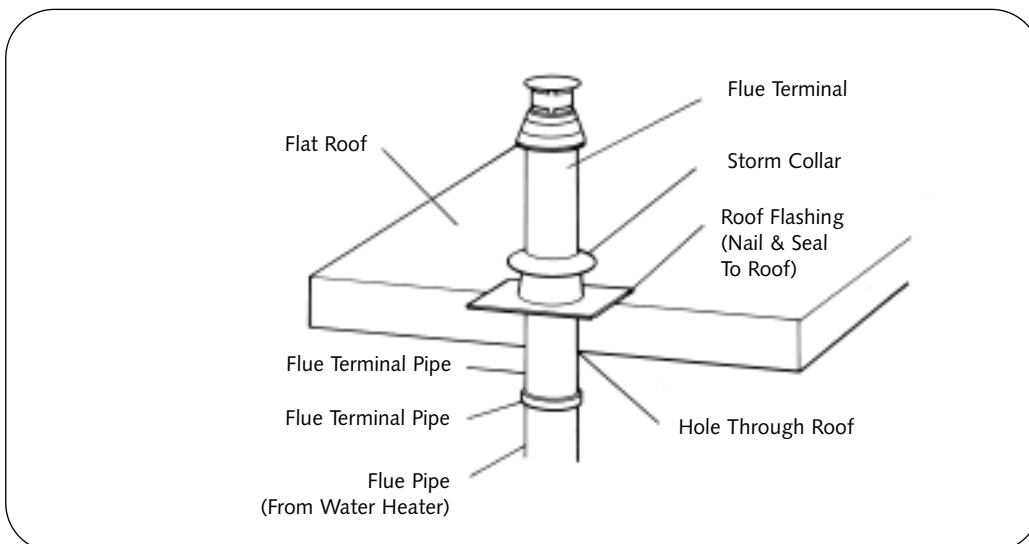

Fig 6.
- c) Cut a minimum 165mm (6.5in) diameter hole for the smaller flue size or a 216mm (8.5in) minimum diameter hole for the larger flue size centred in the desired location for the roof terminal. See Fig. 6.